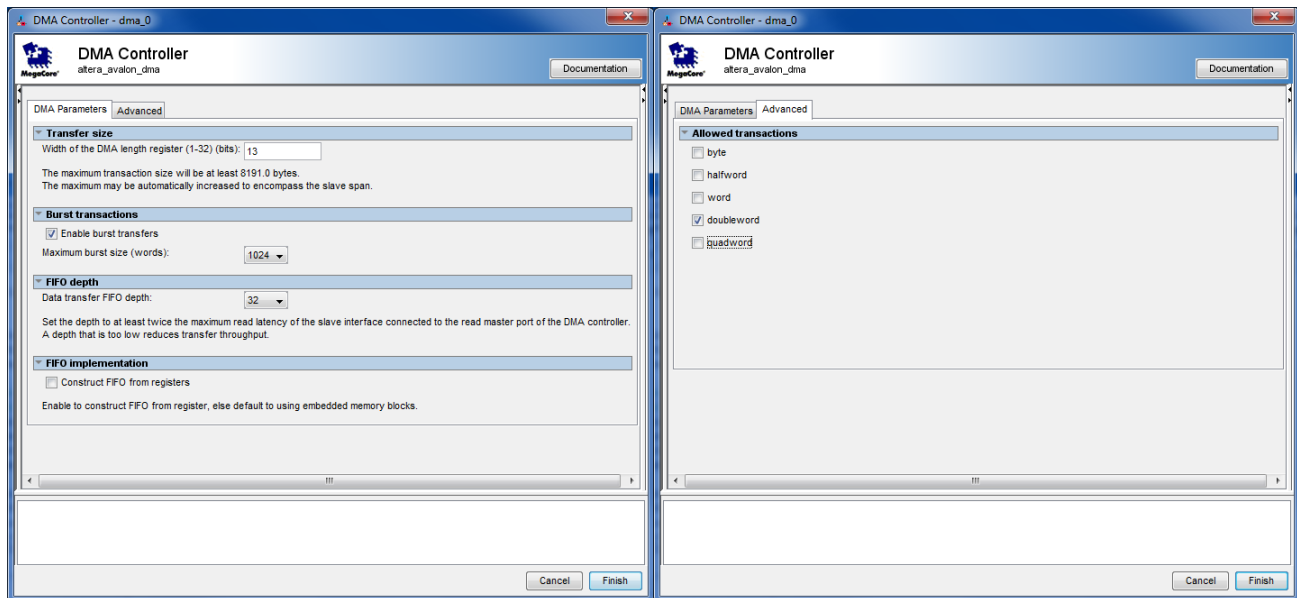

Figure 5. Settings for DMA Controller.
- Click **Finish**, then the DMA Controller *dma\_0* is added to the Qsys system. Figure 5 shows the screenshots of the settings.